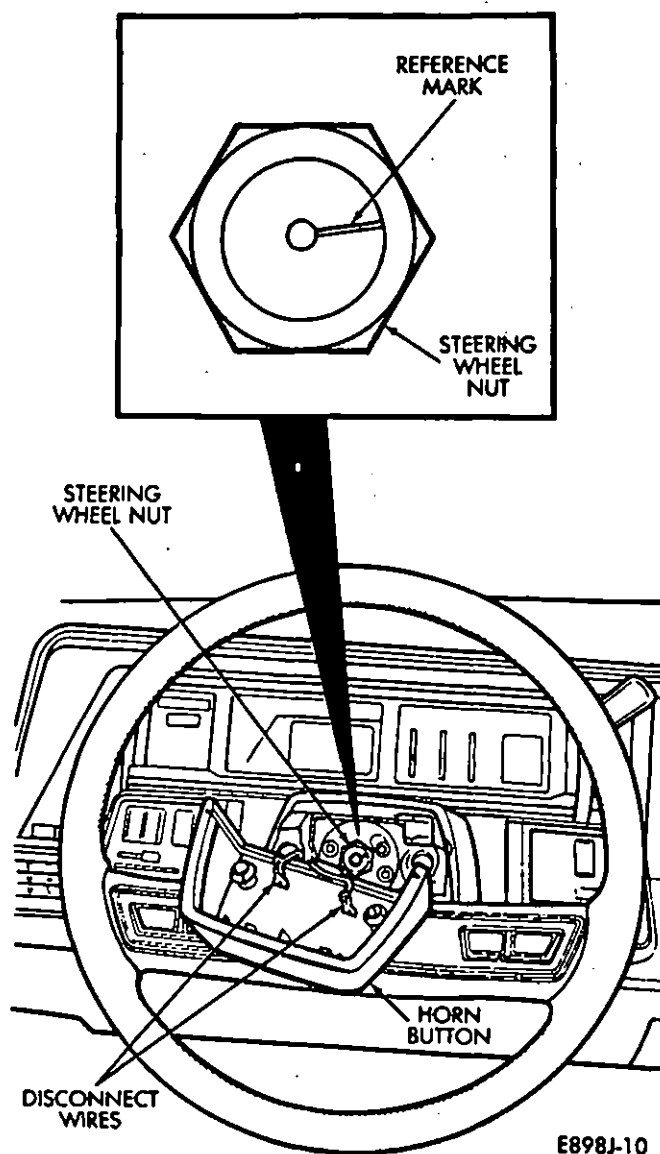

Fig. 2—Remove Horn Button
(3) Disconnect wires (Fig. 2) and remove the horn button.
(4) Note position of the reference mark (Fig. 2) on the end of the steering shaft.
(5) Remove the steering wheel nut (Fig. 2) and slide the steering wheel off the shaft.